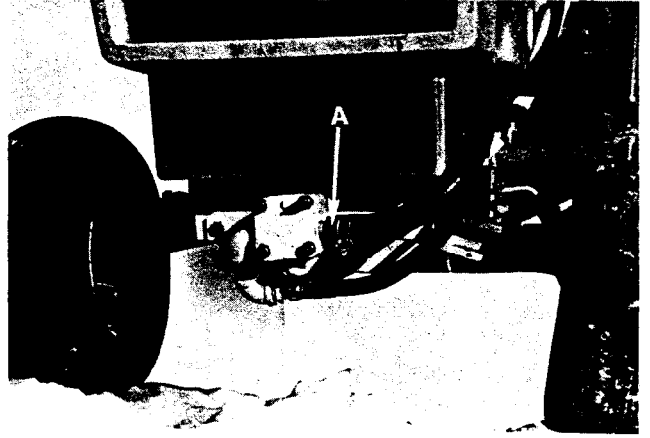

FIG. 14
14. Refer to Fig. 14.
Hook up Pressure and Suction Hoses to Pump as shown in FIG. 14. For specific parts involved, see detailed diagram in FIG. 20.